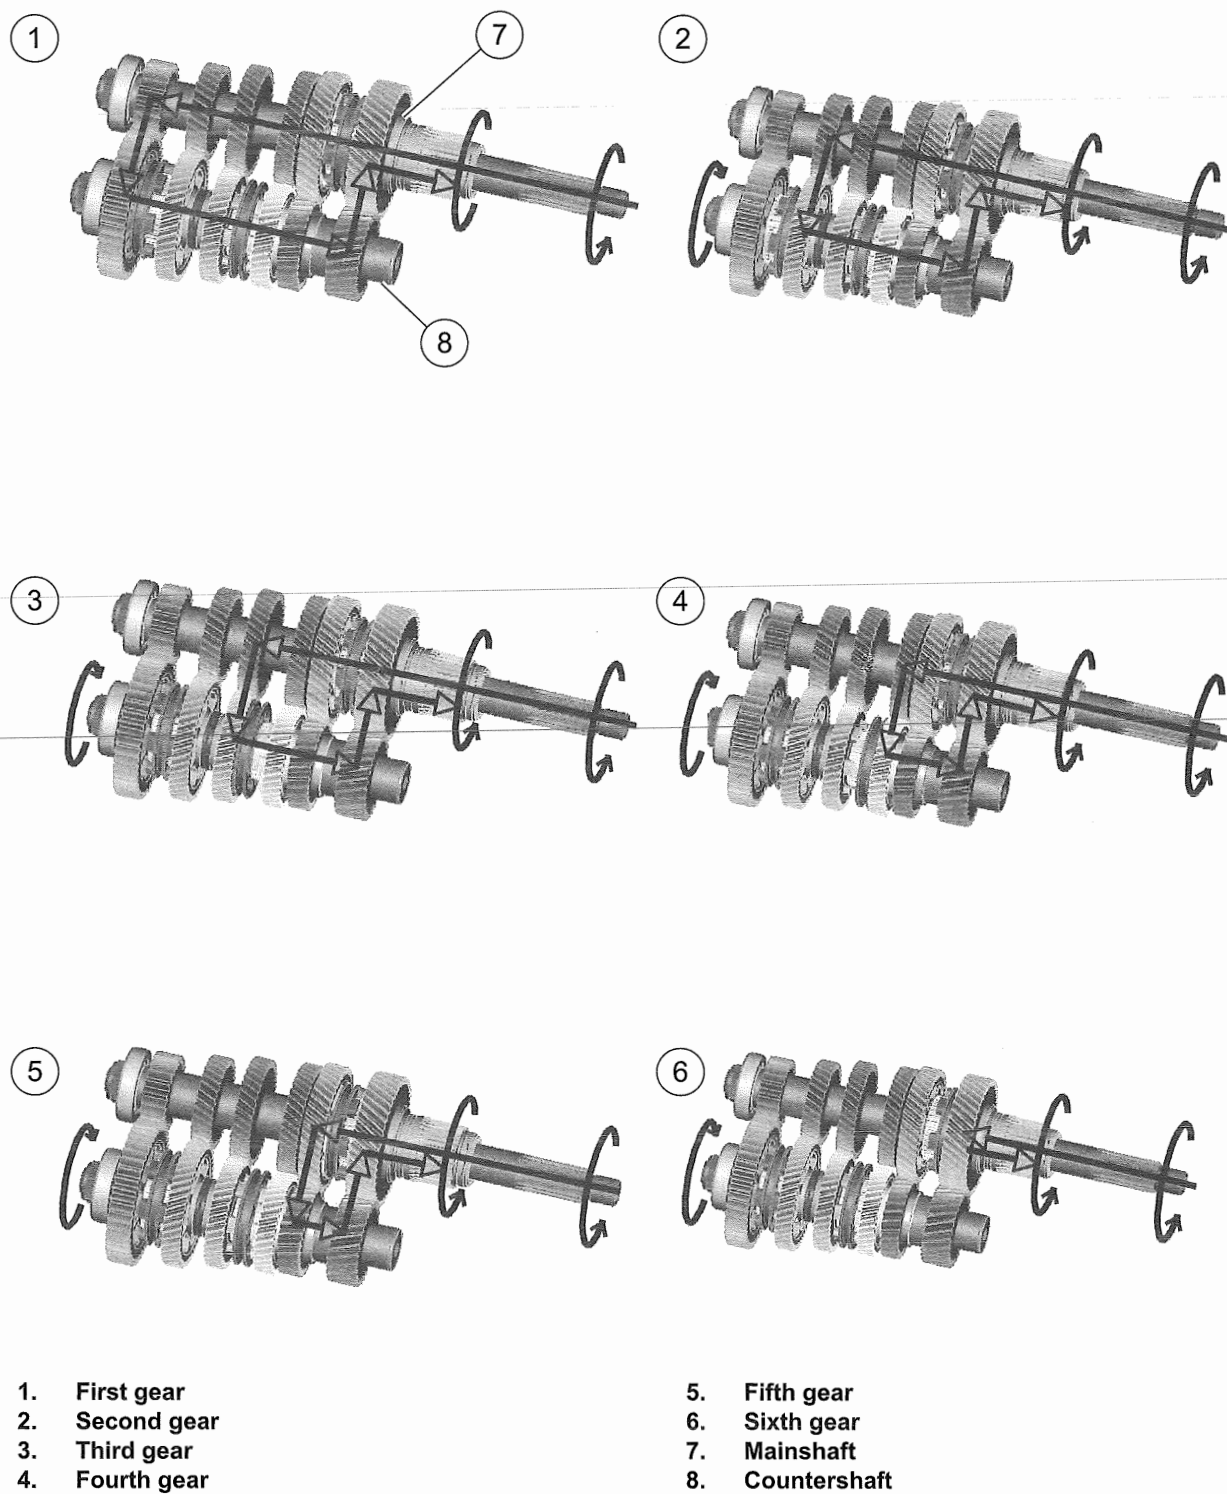

Figure 5-1. Transmission Power Flow
See Figure 5-1. The 6-speed transmission consists of two parallel shafts supporting six gears each. The longer, or mainshaft (7), also supports the clutch and serves as the input shaft. The shorter shaft is called the countershaft (8).